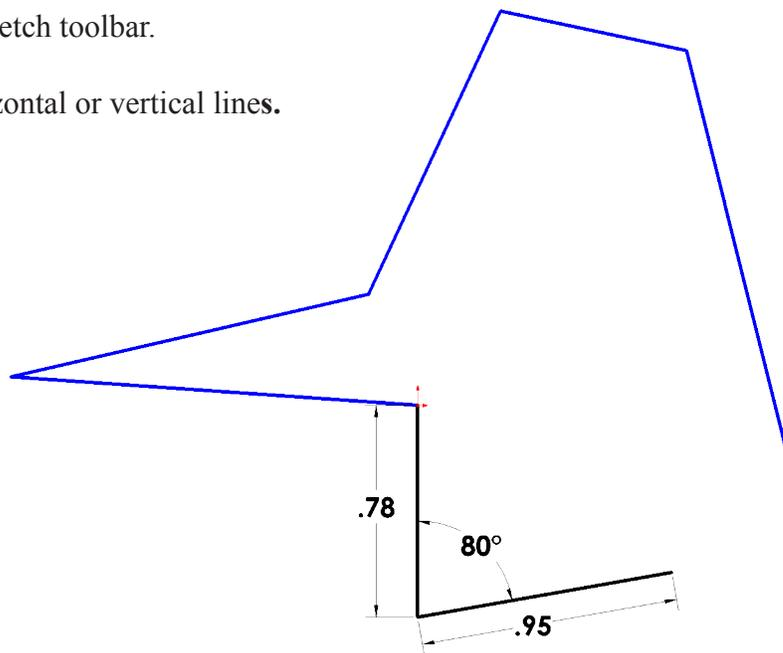

Fig. 4
Step 1. Click **Line**  (L) on the Sketch toolbar.
Step 2. Draw **5 lines**, **Fig. 4**. No horizontal or vertical lines.